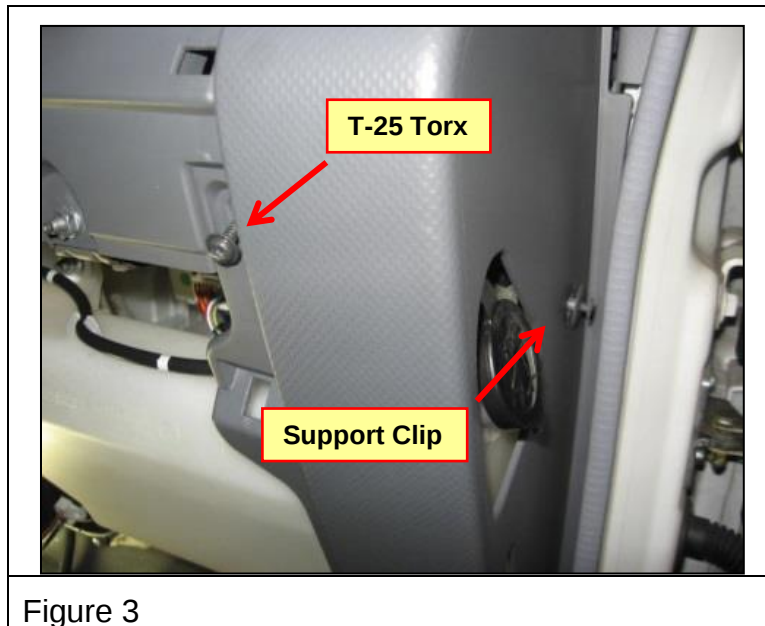

Figure 3
4. Remove the side panel by removing the one (1) T-25 torx from the inside edge of the panel and the one (1) support clip from the outer side panel. (See Figure 3.)